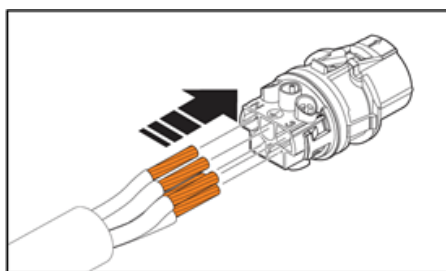

Fig. 15: Placing the wires
- Connect the wires to the contact carrier (Fig. 15).